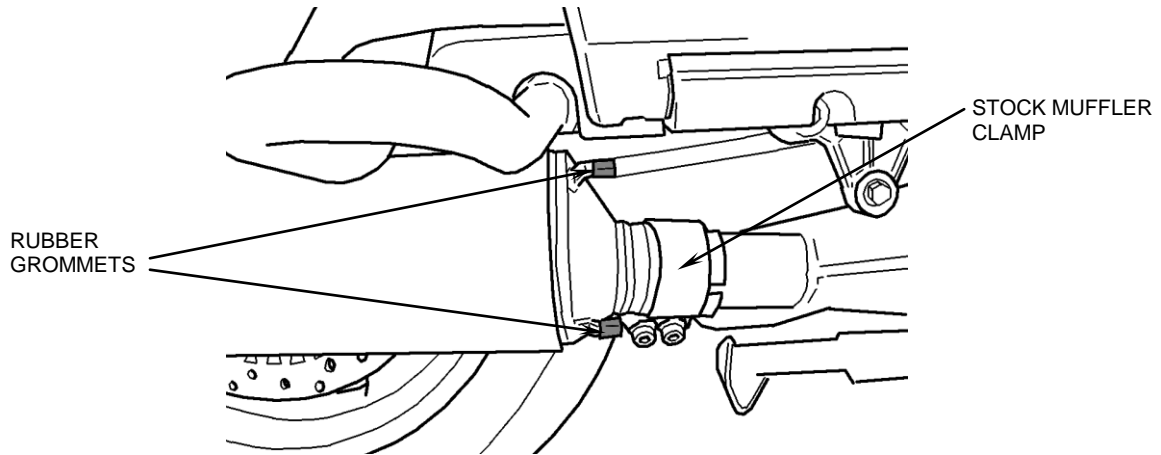

FIGURE 1
2. Loosen the muffler clamps on both sides (see Figure 1) and slide the stock muffler assemblies toward the rear of the motorcycle to remove. (Do not remove heatshields).